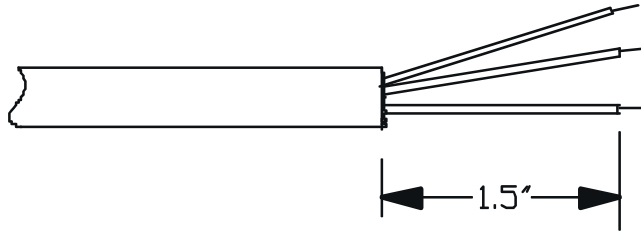

Figure 3 - PREPARING POWER CORD
- Strip the free end of the wires evenly as shown in Fig. 3.